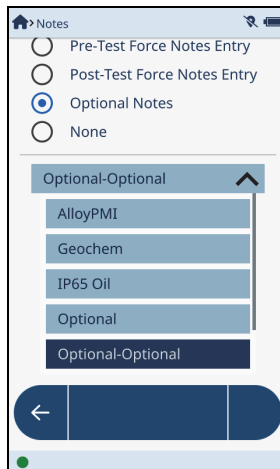

Figure 2-26 Optional Notes bar
1. Tap the **Optional-Optional** down arrow so that the **Optional** bar is displayed (see Figure 2-26 on page 45).